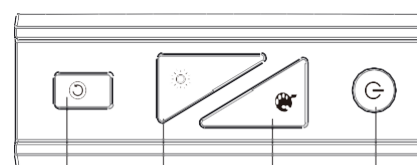

Fig. 2
3. The remote has four buttons (Fig. 2).